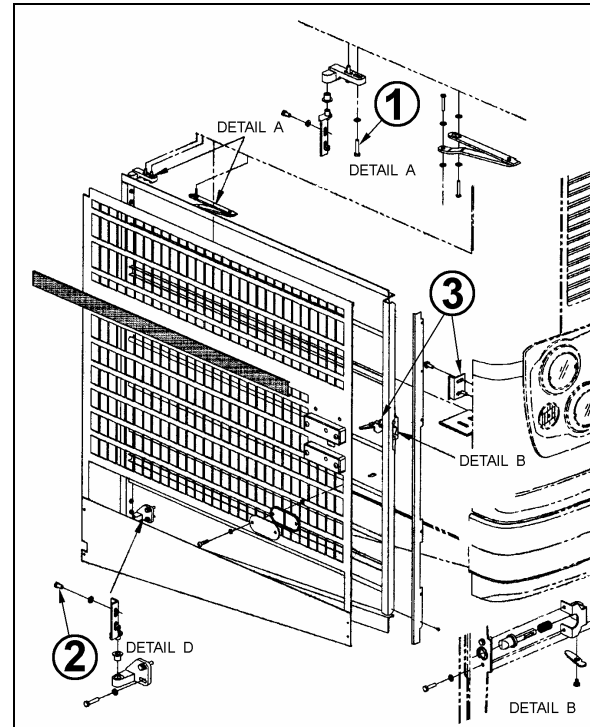

FIGURE 83: RADIATOR DOOR
1. Loosen the bolts, (1, Fig. 83) holding the hinge to the vehicle structure to shift the door "IN or OUT" and "UP or DOWN".
2. Loosening the bolts (2, Fig. 83) allows the door to be shifted "LEFT or RIGHT" and "UP or DOWN".
To adjust the latch mechanism (3, Fig. 83) and the striker pin: